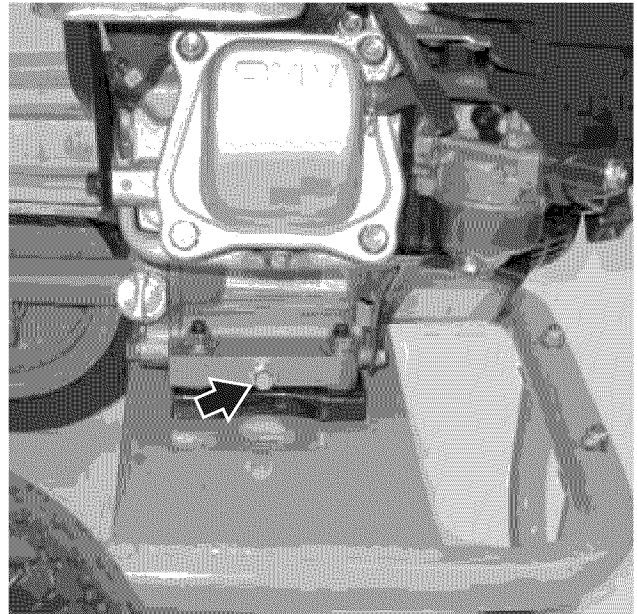

Figure 55 – Oil Drain Plug – WP3000Z
6. Remove the oil drain plug (*see Figure 55*). Once removed, place the oil drain plug on a clean surface.